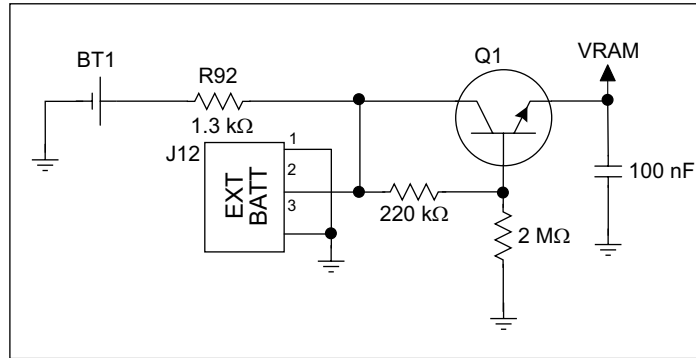

Figure C-2. BL2000 Backup Battery Circuit
Figure C-2 shows the battery backup circuit.
- It reduces the battery voltage to the SRAM and to the real-time clock, thereby limiting the current consumed by the real-time clock and lengthening the battery life. The regulator in Figure C-2 sets VRAM to approximately 2 V when Vcc power is lost.